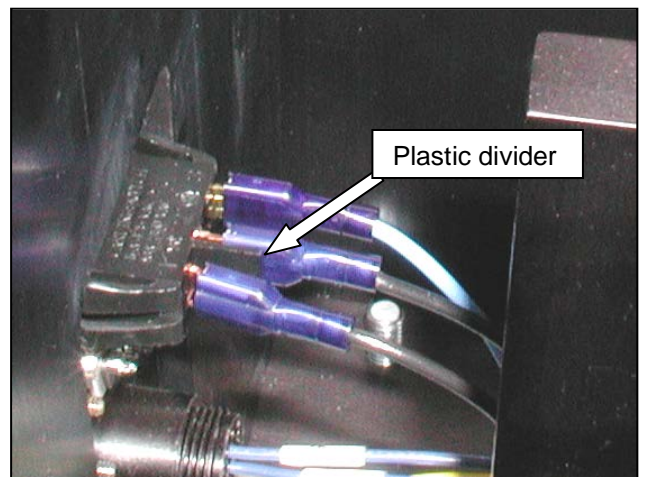

Figure 3-56. Plastic divider location
3. Remove the three spade connectors from the back of the Main Power Switch (Figure 3-56).